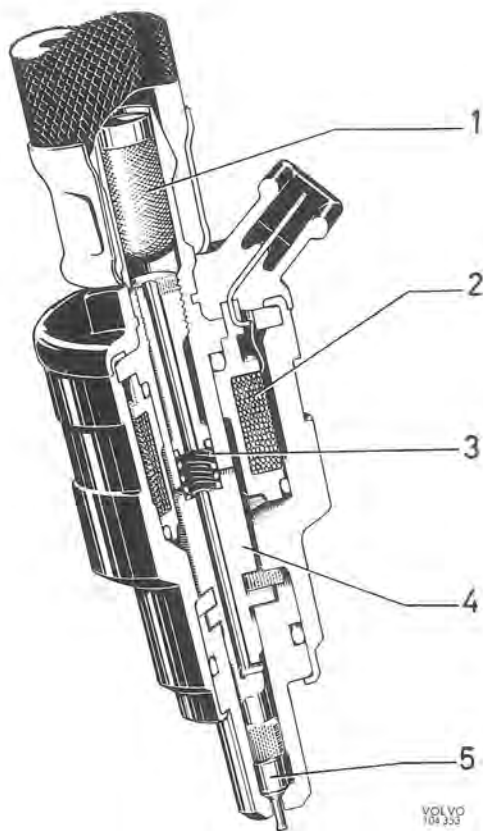

Fig. 2-106. Injector
The injector consists of a housing containing a sealing needle, magnetic winding and return spring, see Fig. 2-106. When the magnetic winding (2) is not in circuit, the return spring (3) presses the sealing needle (5) against a seat and this closes off the supply of fuel.